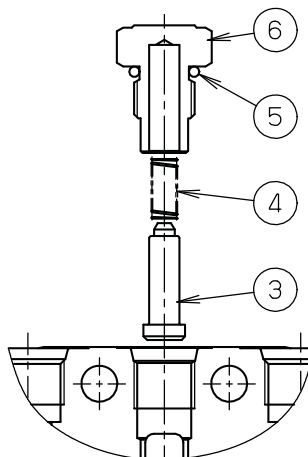

Fig.5 Check valve
- The numbers in fig.5 are the same as those in the travel component. In the specifications and drawings.